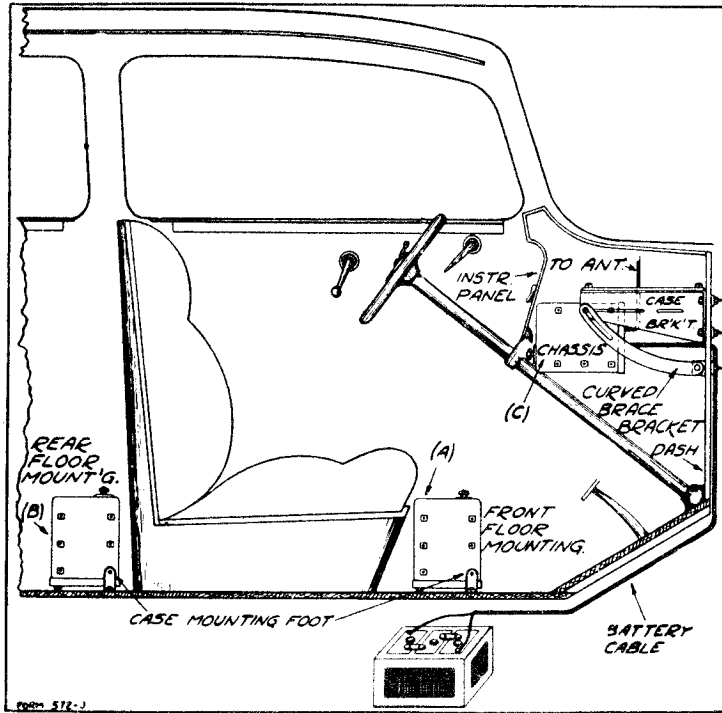

Fig. 1—Integral Mounting—Side View
By integral or all-in-one mounting of the chassis is meant operating the receiver by means of the controls on the chassis box (and not with a separate control unit). This method is the simplest, as no changes are required on the receiver. It can be installed in several ways, as explained below and as illustrated in Fig. 1. Still other methods of mounting and locations for the chassis will suggest themselves, depending on the space available and variations in the construction of different cars.
In Fig. 1(A) is shown how the chassis can be placed on the floor in front of the front seat. There are four rubber mounting feet on the bottom of the box, on which it stands. It may also be placed in back of the front seat (B) so as to be in the rear compartment of the car. In some cars, there is room enough between the two front seats for the chassis box to be placed. In coupes, the chassis may be placed on the shelf in back of the seat. Still other locations, as mentioned above, can be used, depending on the space available in different cars.
mounting. These mounting feet are shown in Fig. 1. One side of the foot, which is a small angle bracket, is secured to the end of the chassis box by means of one of the chassis mounting screws. The other side of the foot is screwed to the floor board or surface on which the chassis is resting, with a wood screw. The two feet are placed diagonally, that is on one end of the chassis box it is at the front, while on the other end it is at the rear.
In Fig. 1(C) is also shown how the chassis can be mounted on the dash by means of brackets, in such a way that the front portion of the box with the controls, is flush, or nearly so, with the instrument panel. This is a very desirable method of installation, as the receiver is rigidly in place, out of the way, and the controls are very accessible.
When mounted this way, two side case brackets (long type) are used, one on each end of the box, as shown in Fig. 1. Two mounting screws are generally used to secure each bracket to the end of the chassis box. Three may be used in cases where the distance between the instrument panel and dash is small. Six embossings with inset nuts are provided on each end of the chassis box. Any two of these or
three, as mentioned above, may be used for the bracket screws, which, together with the slots in the brackets, provides great flexibility in mounting. In addition to the side case brackets, two curved brace brackets and one cross strap brace as shown in Figs. 1 and 2 are used.
it may have to be moved to either side. In some instances, it can be mounted at the center of the instrument panel, but may have to be moved down and nearer to the dash than as shown in Fig. 1. Consideration should be given to the possibility of
These can be put on in a number of different ways. The front or back case bracket screw can be used and the brace bracket itself can be mounted upward or downward. As a general rule it is mounted on the bracket screw farthest away from the dash and downward as shown in Fig. 1. The small angle brackets supplied with the receiver are secured at the base of the curved brace brackets as shown in Figs. 1 and 2, by means of the No. 10-32 3/8" Round Head Screw, nut and washer supplied. After the position of the brace brackets is decided on, put them in place and start the holes for them with a center punch. These brackets are bolted to the dash in the same manner as explained above for the case brackets.